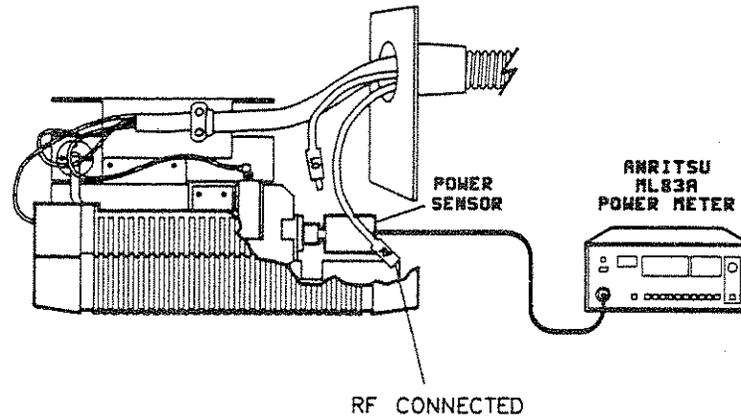

Figure 5-5. Power Level Test Setup
5. Connect the power sensor to the A13 output as shown in Figure 5-5.